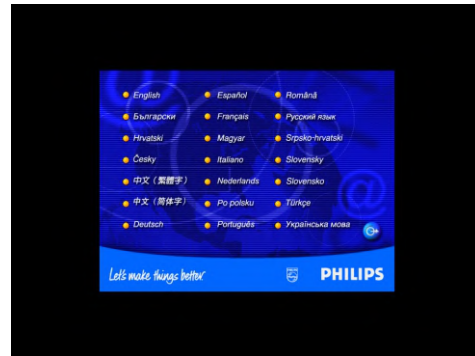

Fig 1.
1. Put CD-ROM into CD-ROM Drive, bring up Fig 1.